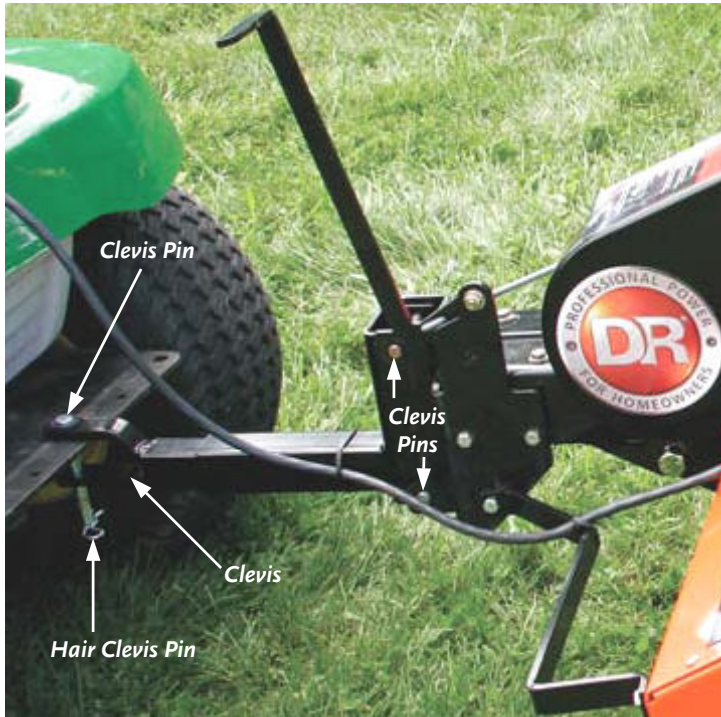

Figure 11
NOTE: The height of machine is adjustable by +/- 3" by removing the two (2) Clevis Pins (Figure 11) and re-positioning the Hitch up or down. The lower the front of the frame, the deeper the Tine depth for tilling, but you will lose transport height.
3. Remove the Hair Clevis Pin and Clevis Pin from the Clevis. Back the Tow Vehicle so the Hitch on the Tow Vehicle goes into the Clevis. Set the Parking Brake on the Tow Vehicle and reinstall the Clevis Pin and Hair Clevis Pin (Figure 11).